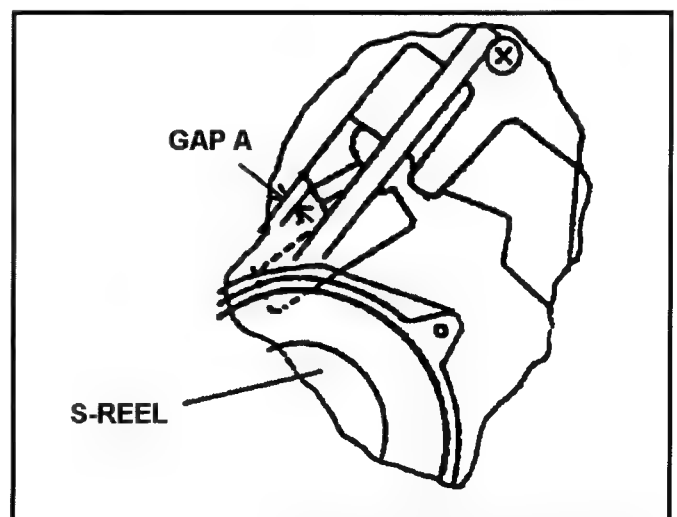

Fig.6-18-2 M-Stopper Solenoid Position Adjustment
3. Observe the clearance (A) between Mech Chassis and M-Stopper as shown in Figure 6-18-2. And make sure that it is within 1.1 to 1.3mm.
4. If not, loosen the 2 screws (A), which fixed M-Stopper Solenoid. And adjust the position of M-Stopper Solenoid so that the clearance (A) is within specification. And tighten the 2 screws (A).